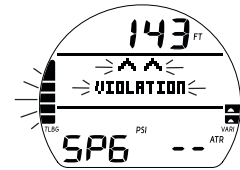

Fig. 55 - VGM MAIN
Upon activation of VGM, the Audible will sound during which the alarm LED and full TLBG* will flash. The graphic VIOLATION and (2) Up Arrows will also be displayed flashing, in place of Deco data (Fig. 55), until on the surface.